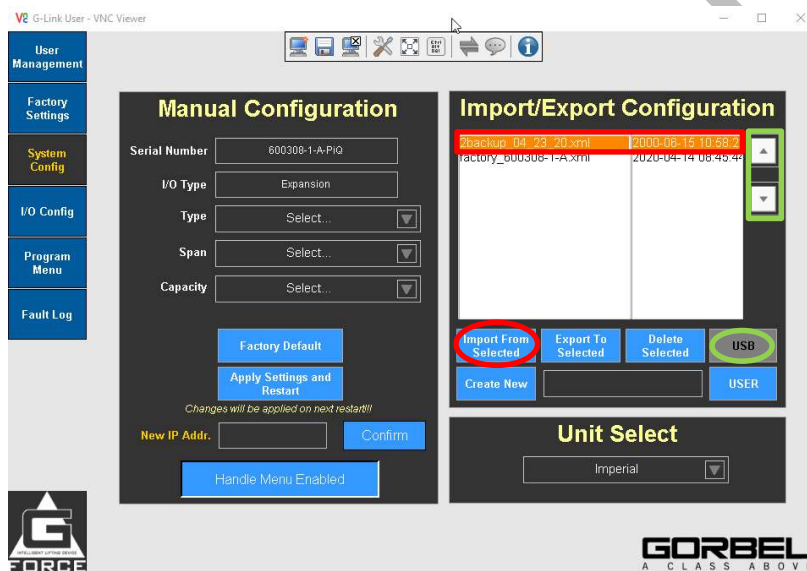

Figure 4: System Configuration Page—Import
- Click on **USB** (Ref: Fig 4 – Green Circle) to see the available configuration files.
- Use the **Up** and **Down Arrow Keys** (Ref: Fig 4 – Green Box) to choose the file created in step 5.1 named similar to “**backup\_mm\_dd\_yy**” (Ref: Fig 4 – Red Box).
- Click on **Import From Selected** (Ref: Fig 4 – Red Circle), to apply all the configuration settings that were previously set before the software upgrade.